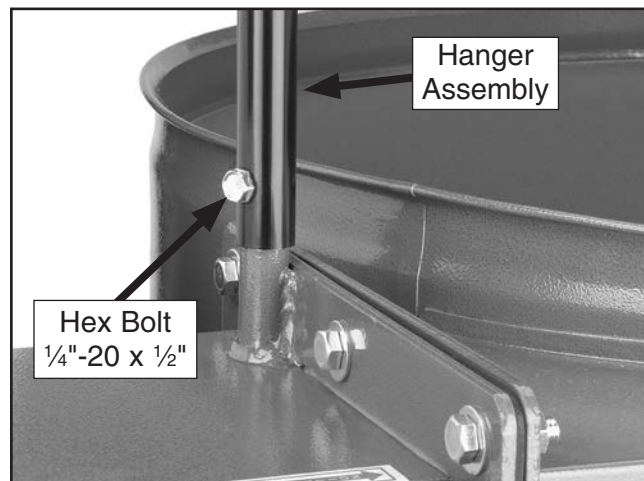

Figure 15. Hanger assembly mounted onto collector (G0671/G0672).
- Mount the hanger assembly on the protruding rod on the collector with one (Model G0671/G0672) or two (Model G0673) 1/4"-20 x 1/2" hex bolts, as shown in **Figure 15**.